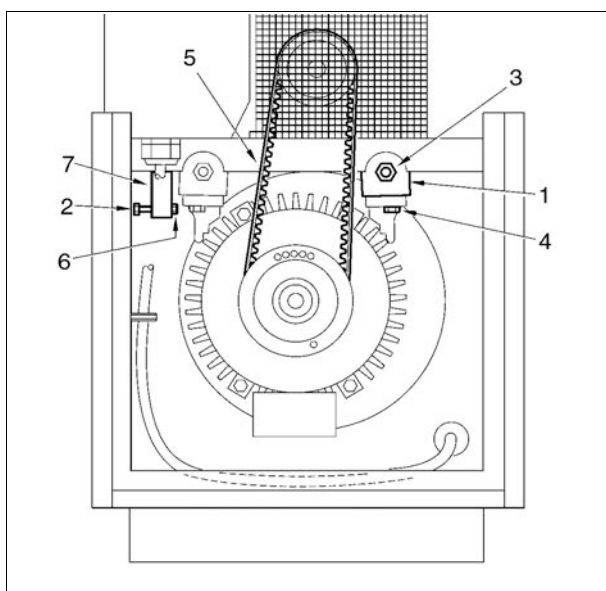

Fig. 13
Fasteners used for securing the electric motor (- 1 - Fig. 13) during transportation must be removed prior to commissioning.
- After the panel has been removed, support the motor by screwing the belt adjusting bolt (- 2 - Fig. 13) clockwise until it touches the motor.
- Loosen the fastening screws (- 3 - and - 4 - Fig. 13) and remove the fasteners
- Check V-belt (- 5 - Fig. 13) is correctly placed in the in V-belt pulleys
- Screw the belt adjusting bolt back until it reaches the lock nut (- 6 - Fig. 13) on the holder (- 7 - Fig. 13); securely fasten the motion screw (anti-clockwise)
- Remove transport guards (see chapter 6.4, Fig. 13)